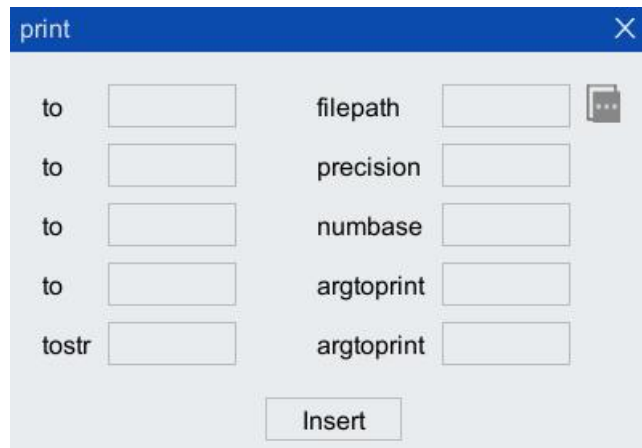

Figure 5-37 "Print" Instruction configuration interface
Step1. Click "Insert Cmd> auxiliary instruction> Print" option in the toolbar of the program editor to pop up "print" instruction interface, as shown in Figure 5-37.